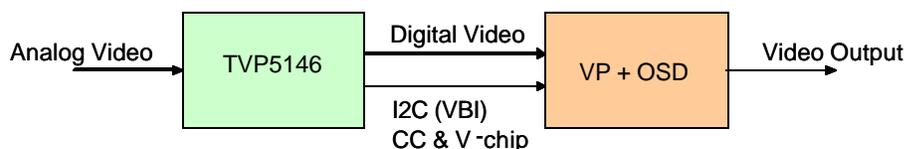

Figure 11. Example System Interface Using the VDP
The Figure 11 shows one example: TVP5146 + video processor (VP) + OSD controller (OSD). In this implementation, the TVP5146 supplies VBI data, e.g., closed caption (CC) and V-chip data, to the backend video processor VP. The VP performs the VBI decoding and then the OSD controller performs the OSD operations to display CC on top of the video images.